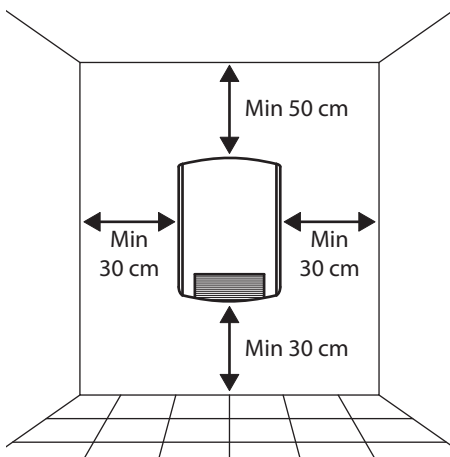

fig 2
- The Mistral fan heater is to be wall mounted in the upright position with the warm air vent facing downwards (see fig 2).